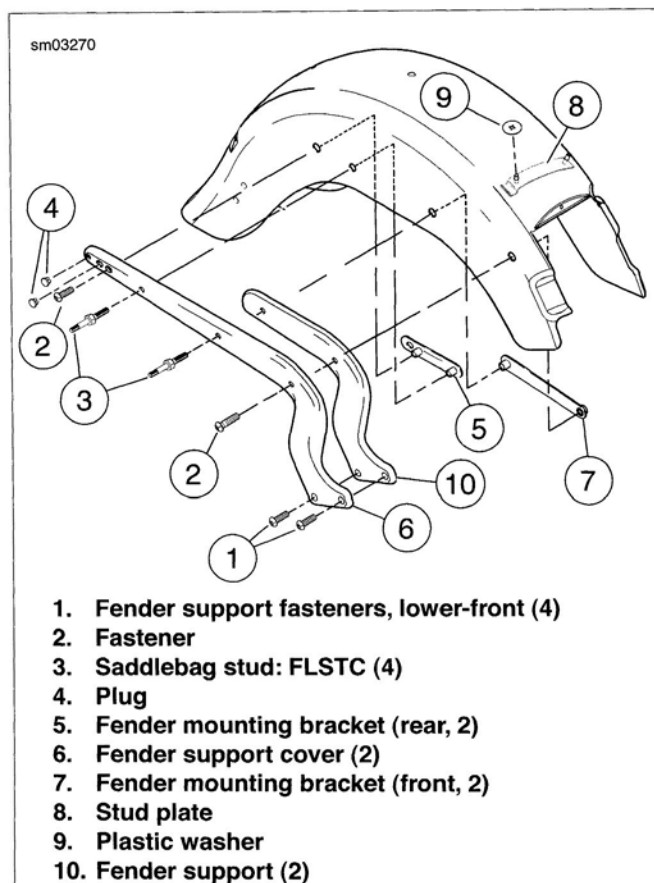

Figure 2-109. Rear Fender: FLST/FLSTC
7. See Figure 2-109. Remove fasteners (2) and saddlebag support studs (3) from front (7) and rear (5) fender mounting brackets.
2. See Figure 2-109. Carefully place the fender into position. Install fender supports using hardware shown. Tighten fasteners (2, 3) to 21-27 ft-lbs (28.5-36.6 Nm). Tighten fasteners (1) to an initial torque of 30-35 ft-lbs (40.7-47.5 Nm). Loosen fasteners (1) and final-tighten to 38-42 ft-lbs (51.5-56.9 Nm).